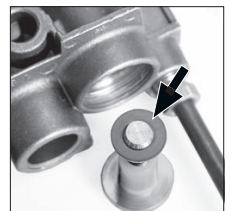

Figure 6:
5. Check that the rubber of the new magnet unit is clean and lies flat on the metal support (see figure 6). Use finger to wipe away loose debris.